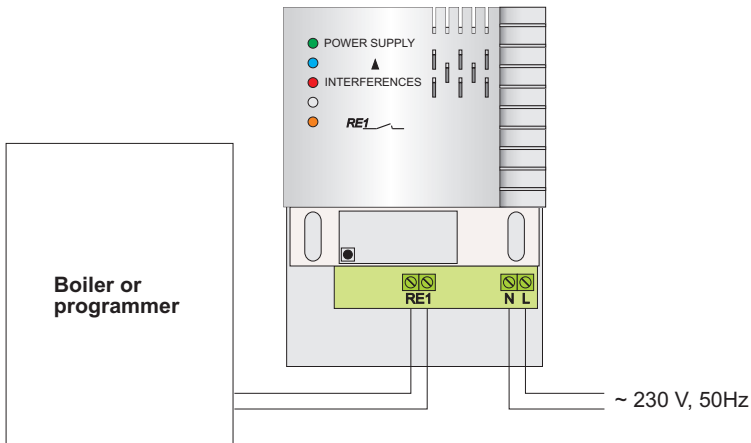

Fig. 4 Diagram of the receiver connections to the boiler/programmer and to the electrical system
4. Connect the cables between a boiler or a programmer and a RE1 clamp in the receiver (Fig.4).
5. Connect the feeder cable with the appropriate clamps in the receiver (Fig.4):